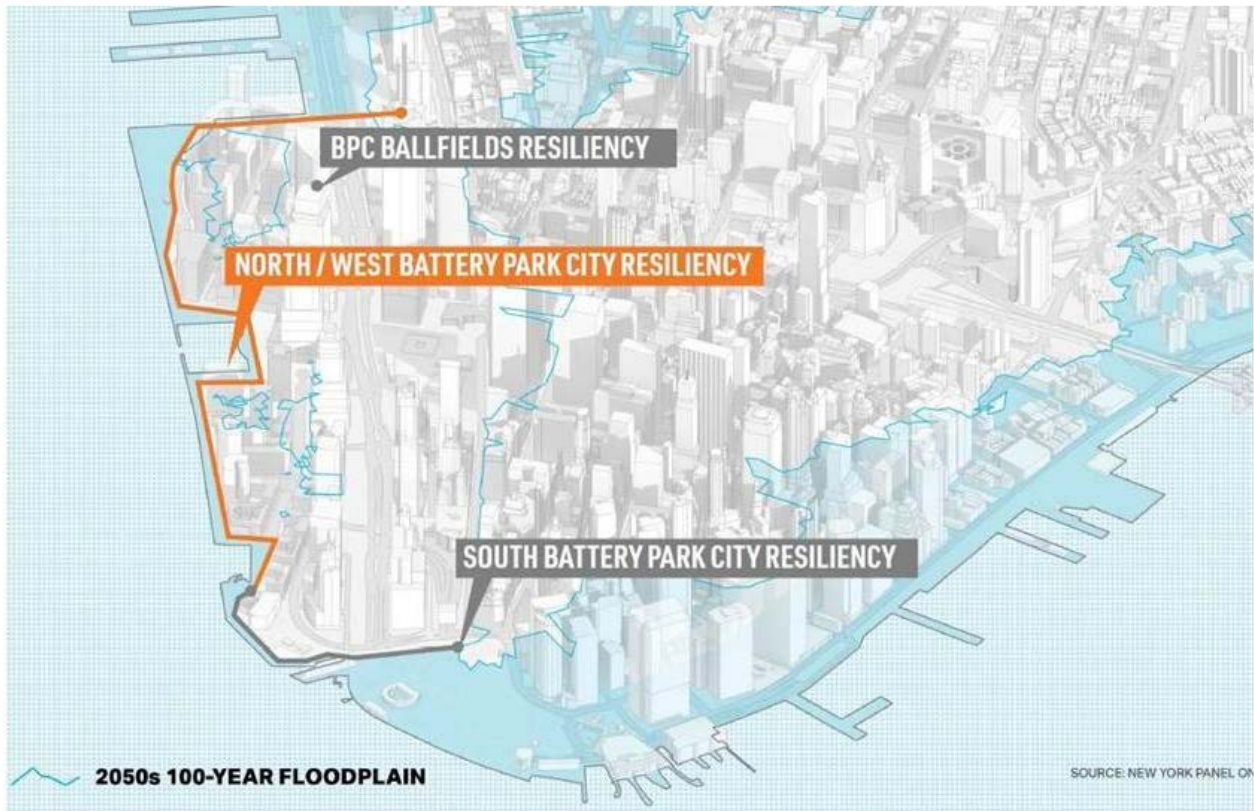

Figure 2: BPCA Resiliency Projects Overview
means for LMCR, in its revised form and at such time as it may be built, to tie into BPC. To date, BPCA’s resiliency assessments have identified the two (2) most currently dire points of severe flood vulnerability within BPC to be: (i) Wagner Park, Pier Plaza and environs (the subject of the Pavilion Project) and (ii) the intersection of the BPC Esplanade and the Hudson River Park waterfront immediately north of Stuyvesant High School and environs (a portion of the North/West Battery Park City Resiliency Project). (See Figure 2, below.)